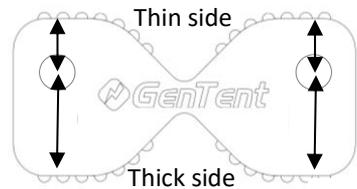
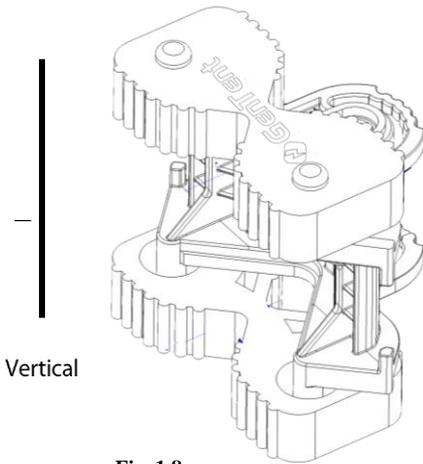
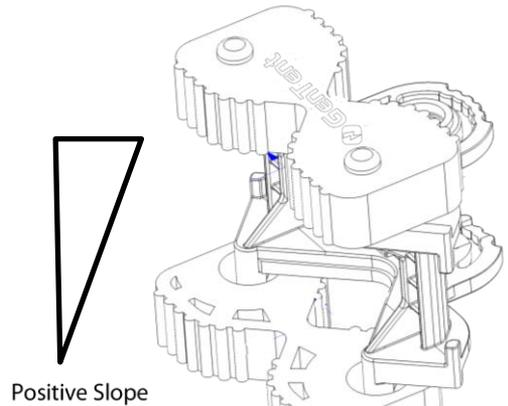

Fig.1.4
Fig. 1.8
Fig. 1.9
The Gator Grommets™ (Fig1.4) are pressed onto the pins of the Angle Brace to create a corner mounting assembly. The grommets allow the assembly to grip the generator case without marring the surface. Each Gator Grommet™ has two (2) thicknesses allowing for optimal fit on various case shapes.
The Gator Grommets™ are used to keep the Angle Braces as level as possible on the case and to give the mount assembly a tight grip against the case. Use the diagrams in Figures 1.8, 1.9 and 1.10 to see how to install the Gator Grommets™ based on your slope.
- e. If you have a case that is straight up and down (**Vertical case**); install both Gator Grommets™ so that the “thin” (fig 1.4) side will be facing the generator case. (fig 1.8)
- f. If you have a case that slopes in at the base (**Positive Slope**); install the top Gator Grommet™ with the “thin” (fig 1.4) side and the bottom Gator Grommet™ with “thick” (fig 1.4) side facing the case (Fig 1.9)
- g. If you have a case that slopes out at the base (**Negative Slope**); install the top Gator Grommet™ with the “thick” (Fig 1.4) side and the bottom Gator Grommet™ with the “thin” (fig 1.4) side facing the case. (fig 1.10)